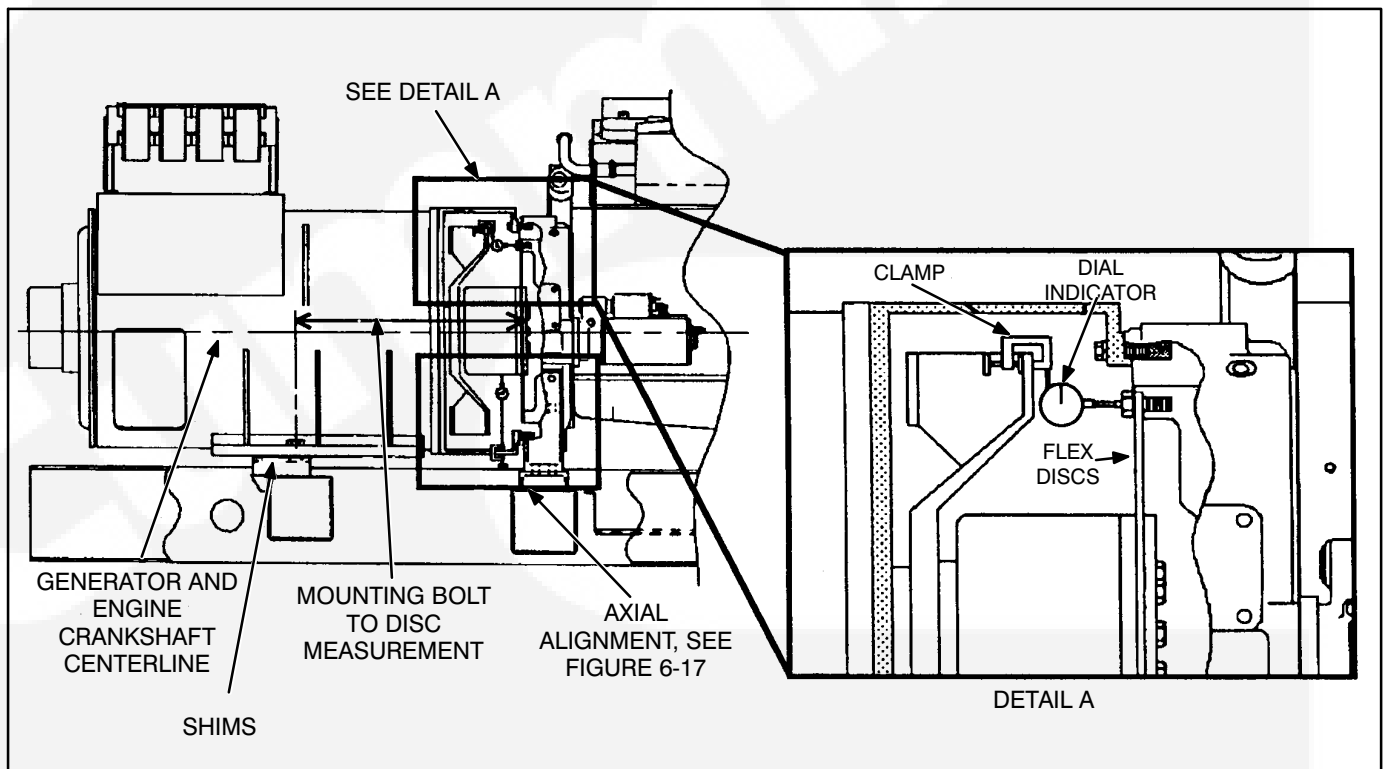

FIGURE 6-15. ANGULAR ALIGNMENT MEASUREMENT
disc at the bolt circle diameter, see Figure 6-15. Bar the engine over in a clockwise rotation as viewed from engine flywheel. Do not allow it to roll back on compression at the end of the travel of each reading. It is unnecessary to zero the indicator since the total indicator reading (T.I.R.) of the deflection measurement to the bolt heads is what is required. T.I.R. will be the sum of the maximum positive and negative dial indicator readings as the engine completes one revolution.
2. Measure the distance from the generator side of the flex discs to the center of the generator mounting bolt, refer to Figure 6-15. (For example; a HC6 Frame's distance is $28.4''$.)
Fasten dial indicator holding device to skid base, engine block, or generator shell with a magnetic base or clamp and position so the sensor point of indicator rests on the generator shaft hub, see Figure 6-15. Bar the engine over in a clockwise rotation as viewed from engine flywheel, through a couple of rotations. Record indicator readings in eight equally spaced points around the shaft diameter. This will provide a T.I.R. for Axial shaft misalignment.